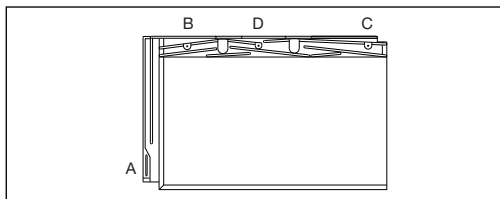

Fig 71 - Slate and a half slate
(When using a 25mm eaves ventilator or at steeper pitches, a special Melbourn stainless steel nail and clip are required.) (See Fig. 71)
- 2 The eaves slates should be nailed at position 'C' and, if they bear directly onto a timber fascia, or onto the 10mm eaves vent used with a timber fascia, at point 'A' as well (Fig 71).